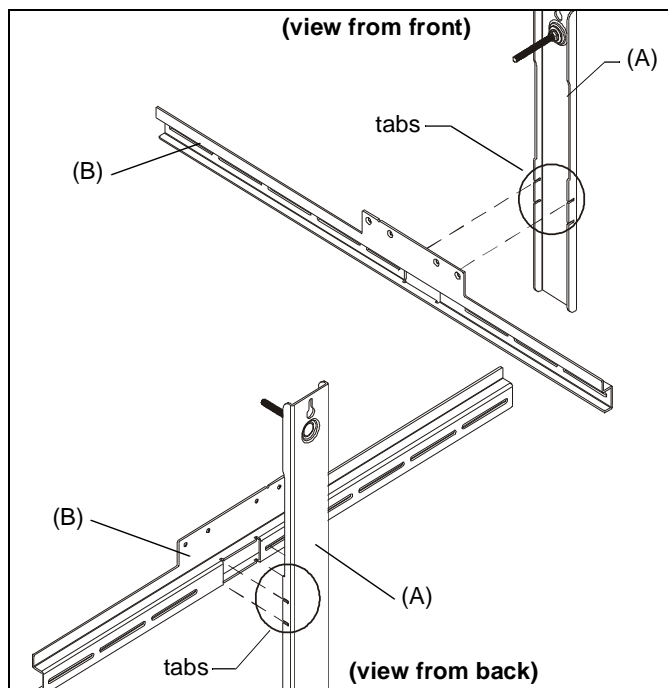

Figure 2
- Slide the tabs on the upper wall bracket (A) into the slots on wall hanging bracket (B). (See Figure 2)